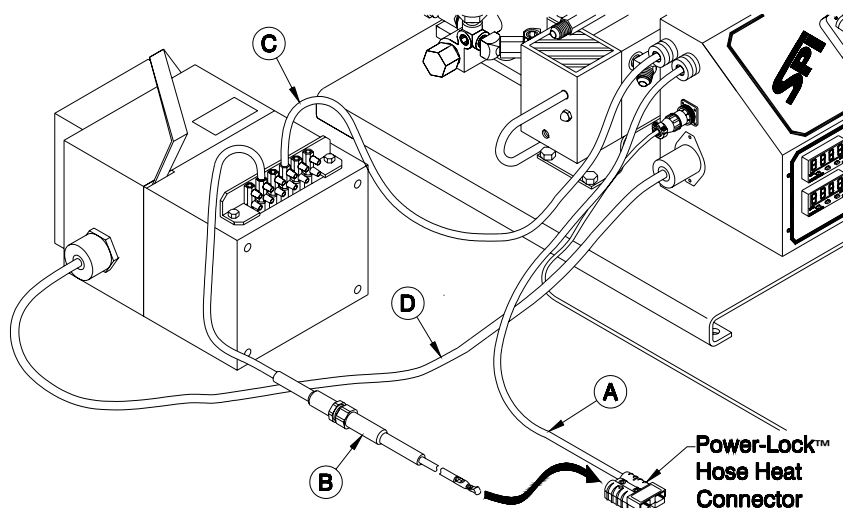

Figure 4. Transformer Connections
2. Plug the tap wire with inline fuse (B) into the Power-Lock hose heat connector on the end of the console wire (A). (See Figure 4.)